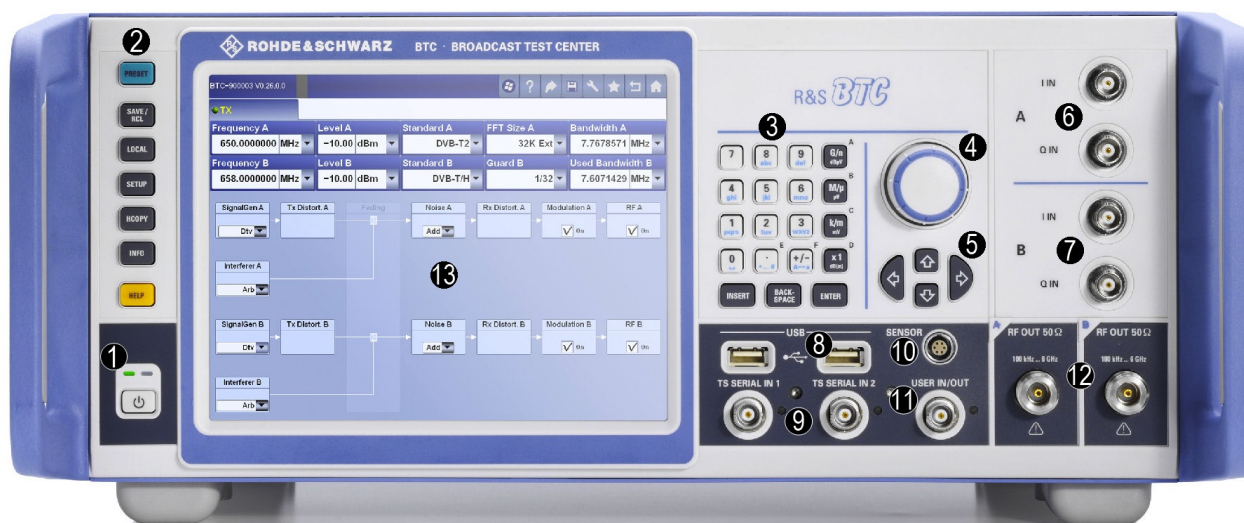

Fig. 4-1: Front panel view (example; 2 paths instrument)
See (1) in figure 4-1.
See (2) in figure 4-1.
See (5) in figure 4-1.
See (3) in figure 4-1.
See (4) in figure 4-1.
See (13) in figure 4-1.
See (6/7) in figure 4-1.
See (8) in figure 4-1.
See (9) in figure 4-1.
See (10) in figure 4-1.
See (11) in figure 4-1.
See (12) in figure 4-1.